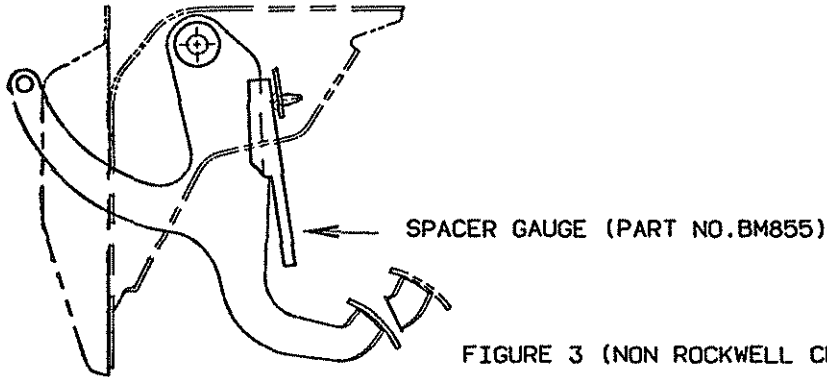

FIGURE 3 (NON ROCKWELL CLUTCHES ONLY).
2.3 FOR TRUCKS WITHOUT ROCKWELL CLUTCH--IN THE CAB POSITION SPACER (PART NO. BM855) BETWEEN THE CLUTCH PEDAL STOP AND THE CLUTCH PEDAL (SEE FIGURE 3).